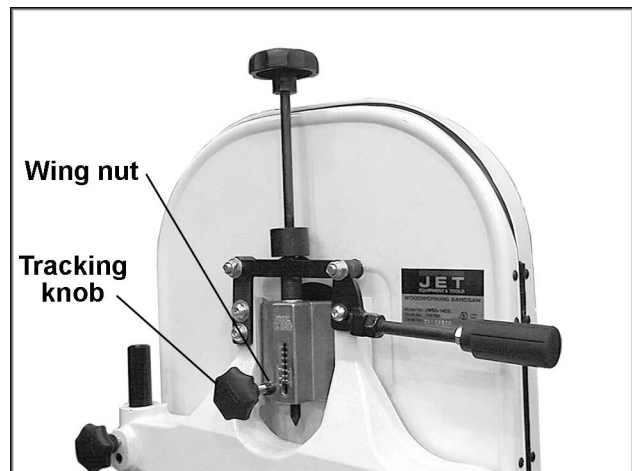

Fig. 17
3. If adjustment is necessary, loosen wing nut (Fig. 17), and tighten tracking knob slightly to move blade toward rear of machine. Slightly loosening the tracking knob will cause the blade to track toward the front of the machine.